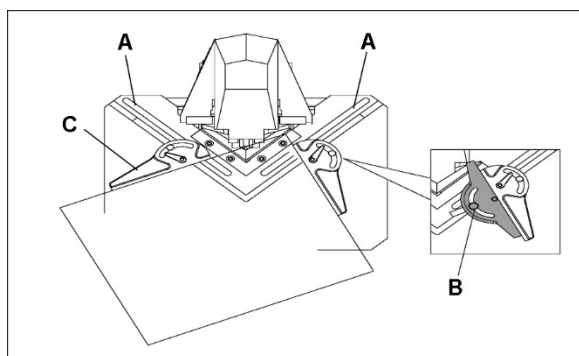

Figure 6-1
1. Use scales (A, Figure 6-1) to help determine notching size.
2. Place angle indicator (B) against fence to help set angle for workpiece.
3. Position fences (C) to secure workpiece in place, and tighten handles.